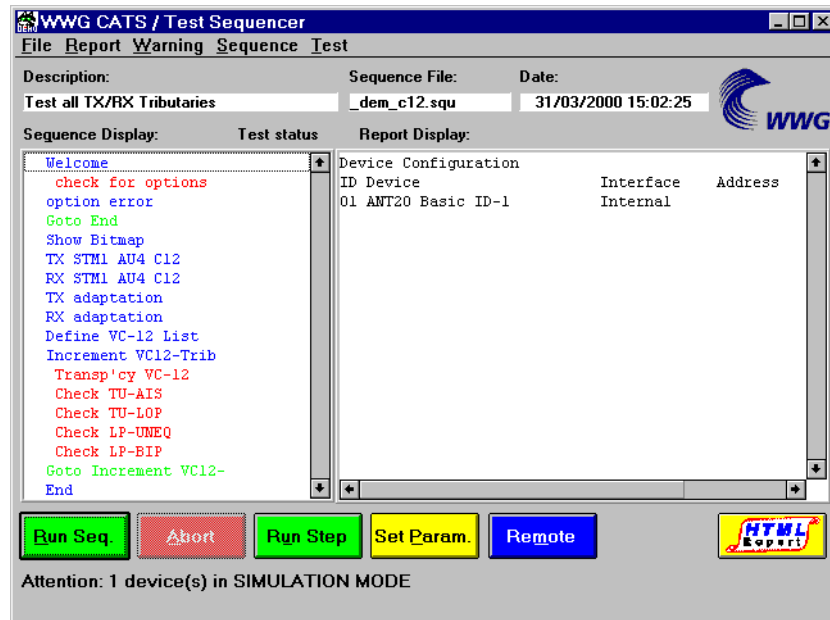

Fig. 3-5 “CATS Test Sequencer” window in “Standard” mode
- ⇒ Click on the “Remote” button (see Fig. 3-5).